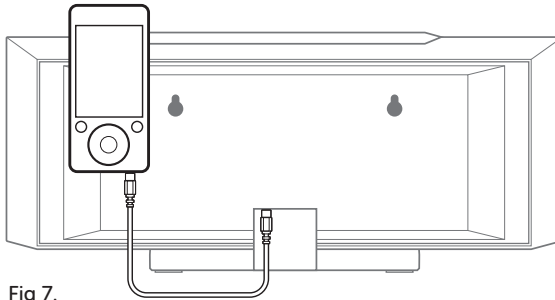

Fig 7.
1. Connect one end of the 3.5mm audio cable to the AUX IN input socket **(17)** on rear of the unit **(Fig 7)**. Connect the other end to an earphone or line-out socket on the audio device (such as an MP3 player).